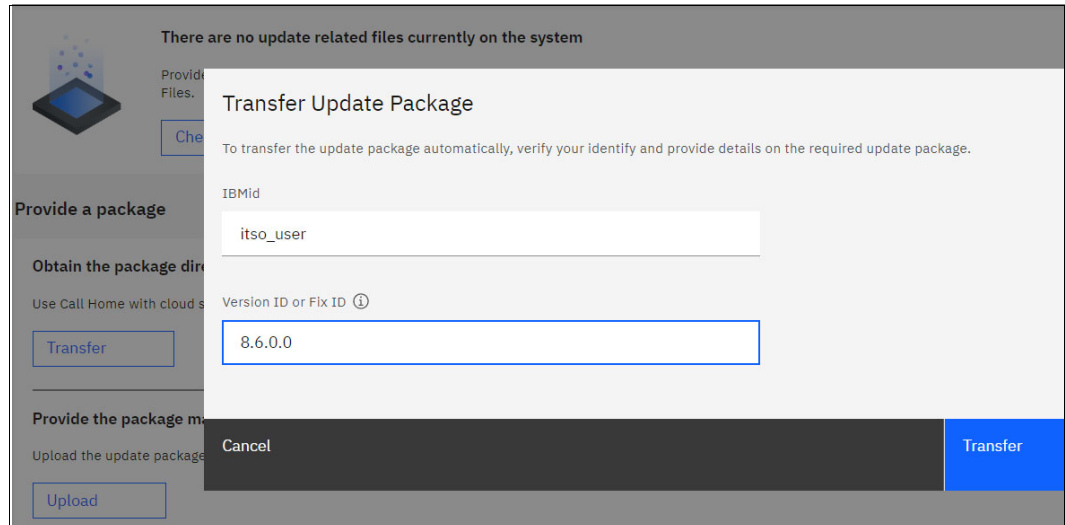
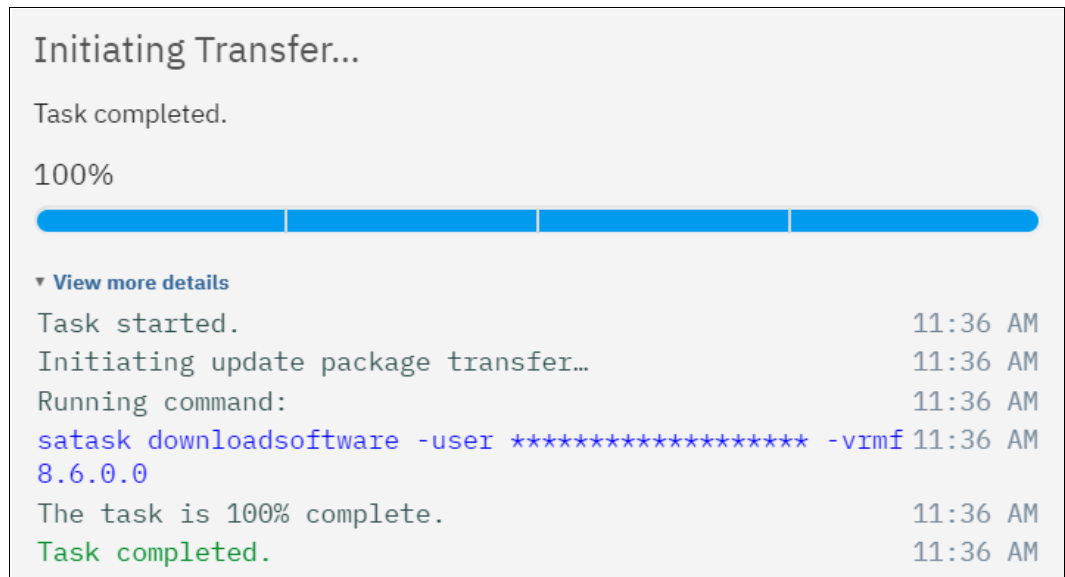

Figure 10-7 Transfer update package
Figure 10-8 Initiating transfer of the update package
4. On the Transfer Update Package page. Enter your IBMid and password along with either Version ID or Fix ID. Example is shown in Figure 10-7 and Figure 10-8 on page 650